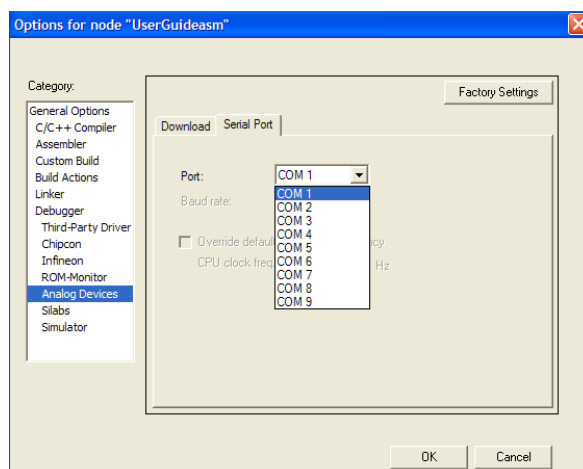

Figure 27. COM Port Selection
2. Using the **Port** drop-down box, select the COM port that the USB-to-UART has been assigned to (see Figure 27). See the Finding Assigned COM Port Number section to determine the COM port that is in use.